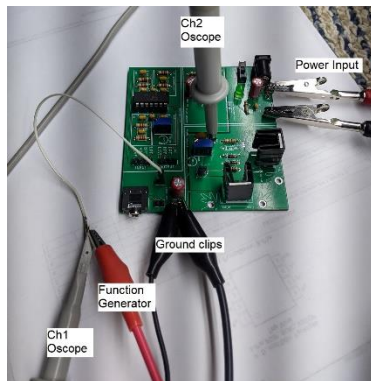

Figure 4: The setup to measure the frequency response of the common emitter input stage of the audio amplifier.
- Verify that everything is setup correctly by comparing your setup to Figure 4,
Your setup should look like Figure 4. Now change the function generator configuration as follows: